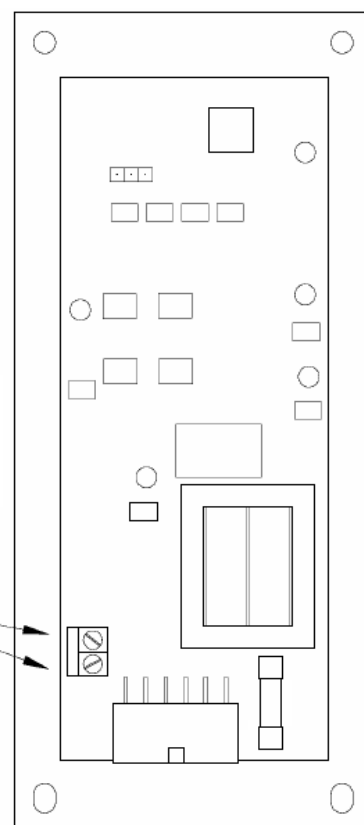

Figure 12
- The green light located above the On/Off button (in the On/Off box) will flash during the ignition start-up period. (See figure 12)
- The two thermostat wires connect to the terminal block on the lower left side of the back of the control board. (See figure 12)